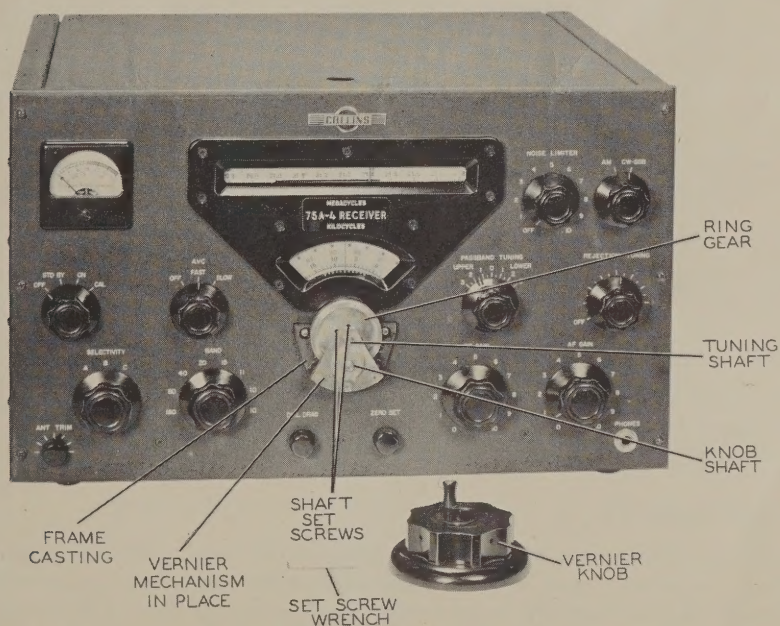

Figure 4. Step 3
4. Refer to figure 4. Enter the tuning shaft into the ring gear hole and slide the vernier mechanism back to where the tuning shaft is about to enter the frame bearing. Carefully press the frame downward until the bearing in the frame is aligned with the tuning shaft then slide the frame onto the shaft. (Because of the antibacklash spring, the frame bearing will not ordinarily be aligned with the tuning shaft until a small amount of pressure is exerted.) Slide the assembly back on the tuning shaft and align the two mounting holes with the old bearing plate mounting holes. Insert the bearing plate mounting screws which were saved and tighten them. Slide the ring gear back until there is about 1/32 inch clearance between the back of the ring gear and the frame casting. If the ring gear is not positioned correctly, it will not clear the shim washer located behind the pinion gear and backlash may result. Tighten the two shaft setscrews. Turn the ring through several revolutions to make sure it does not rub anywhere.
5. Place the new tuning knob onto the knob shaft (shown in figure 4). Slide the knob on the shaft as far as it will go and tighten the two setscrews.